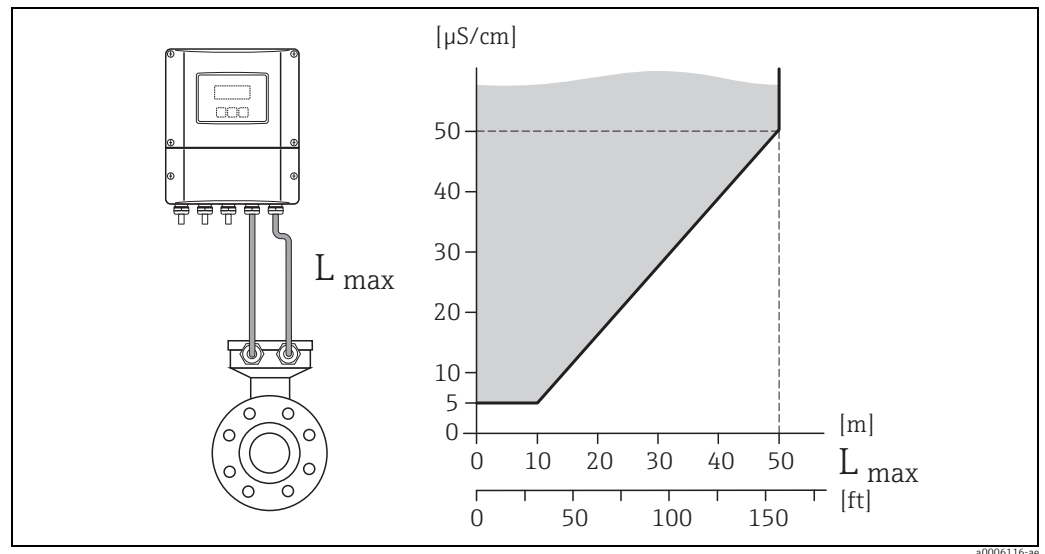
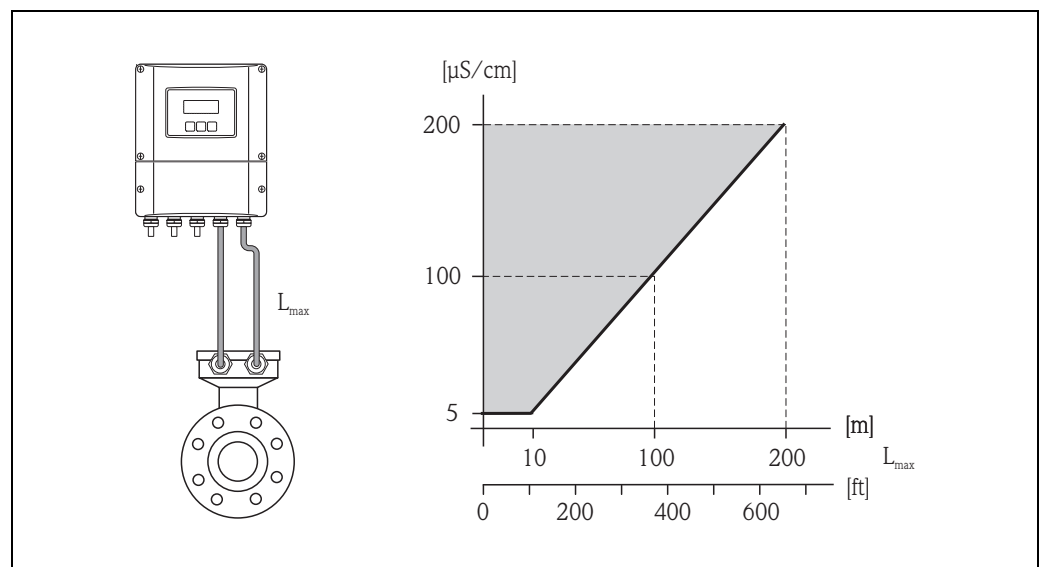

Fig. 16: Permitted lengths for connecting cable in remote version, as a function of the conductivity of the fluid
Fig. 17: Permitted lengths for connecting cable in remote version, as a function of the conductivity of the fluid
- The permissible cable length $L_{\max}$ depends on the fluid conductivity (Fig. 16, Fig. 17).